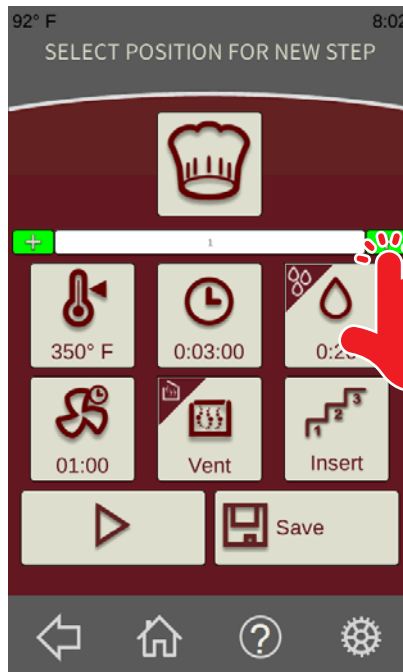

Fig. 27
3. From the **Standard Recipe Run Screen** (Fig. 27), touch the green plus box in the desired location for the additional step.